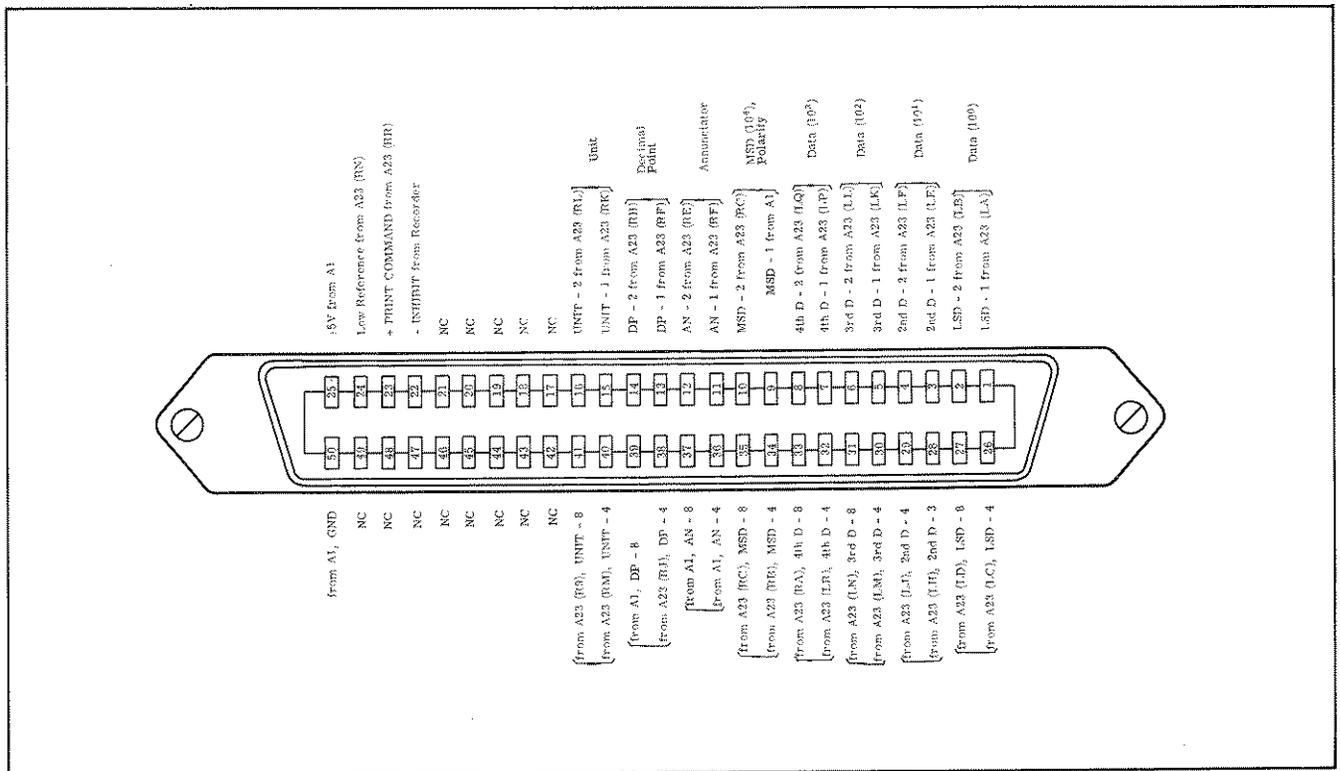

Figure 3-13. Connector Pins and Signals (OPT. 002).
- e. Pin connections for option 002 and recorder are shown in Figure 3-13.